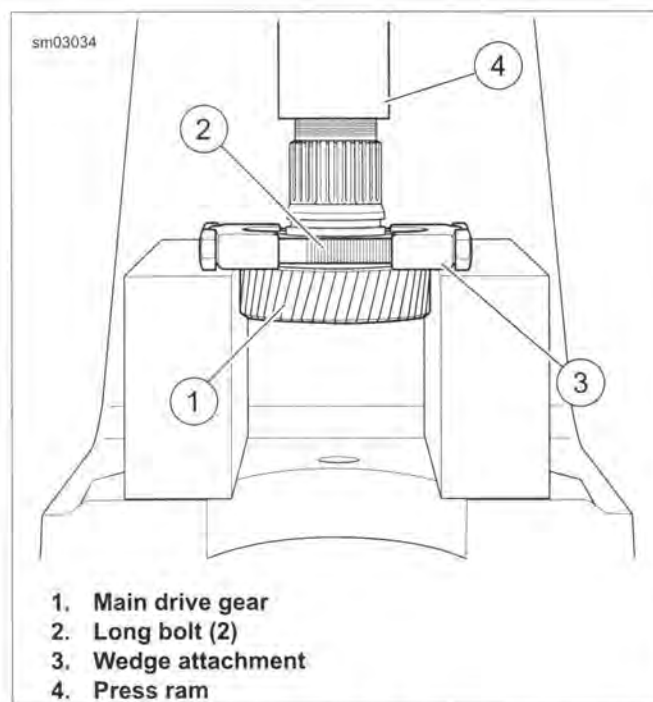

Figure 6-38. Removing Inner Bearing Race From Main Drive Gear
- See Figure 6-38. When the main drive gear is removed, a portion of the bearing inner race remains attached to the main drive gear. If the main drive gear is reused, remove the inner race.
10. See Figure 6-38. Use WEDGE ATTACHMENT (Part No. HD-95637-46B) and LONG BOLTS (Part No. HD-95637-10) to remove inner race from main drive gear.